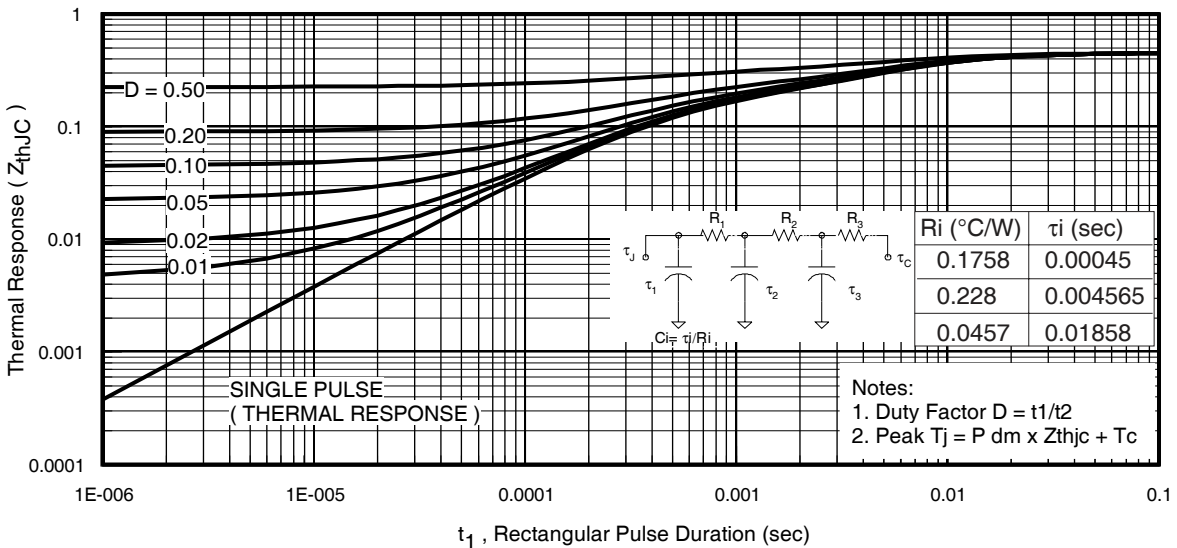

Fig 11. Maximum Effective Transient Thermal Impedance, Junction-to-Case
- ① Repetitive rating; pulse width limited by max. junction temperature. (See fig. 11).
- ② Limited by T_{Jmax} , starting $T_J = 25^\circ\text{C}$, $L = 0.17\text{mH}$
$Z_{thJC}(D, t_{av})$ = Transient thermal resistance, see figure 11)